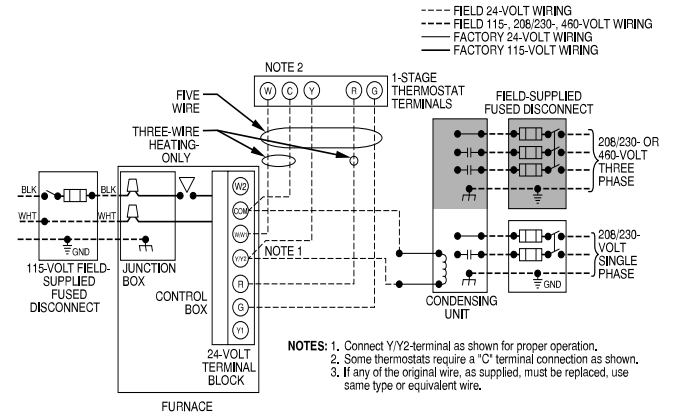

Fig. 33 – Typical Field Wiring Diagram
See Fig. 33 for field wiring diagram showing typical field 115-V wiring. Check all factory and field electrical connections for tightness.
6. Connect power cord power and neutral leads to furnace power leads as shown in Fig. 33.
5. Connect field power and neutral leads to furnace power leads. as shown in Fig. 33.